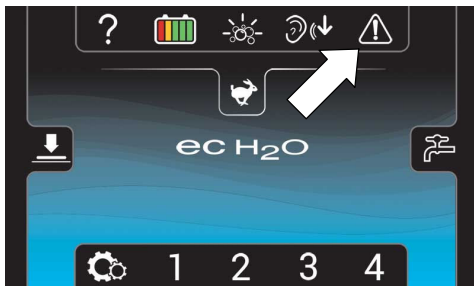

FIG. 61
10. The service indicator icon on the home screen will flash yellow or red when a machine fault is detected (Figure 61).